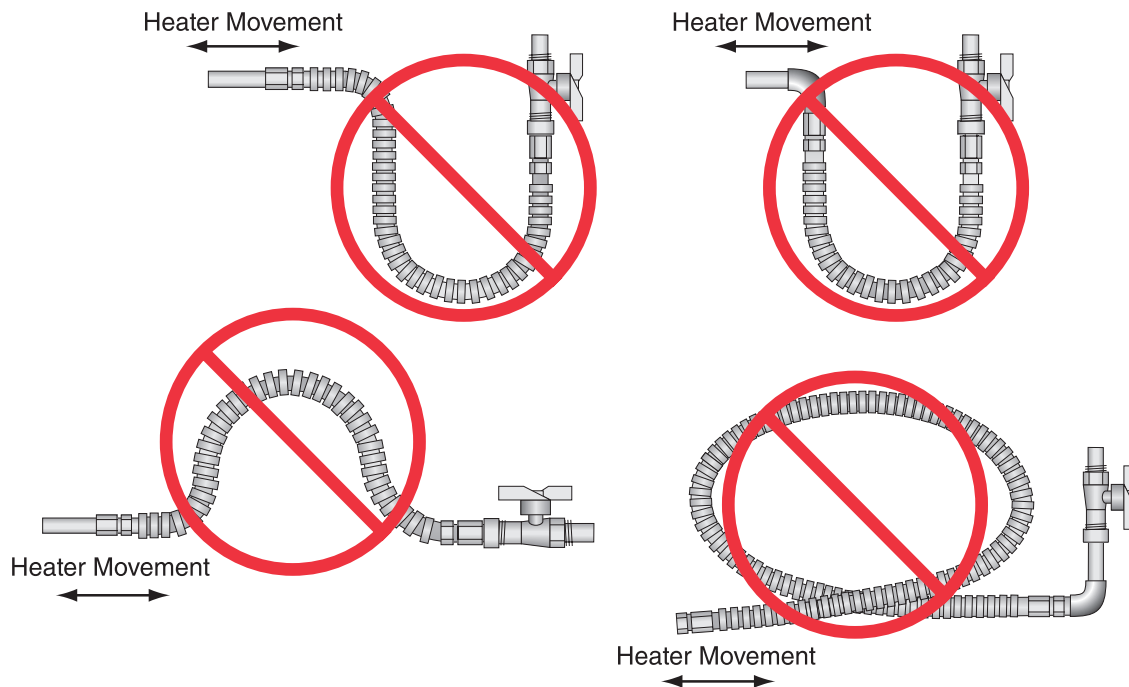

Figure 28. Flexible Gas Connector—Incorrect Installation
1. See Figure 28, which shows potential incorrect flexible gas connector installation positions. Ensure that connector is not installed in any of these positions.